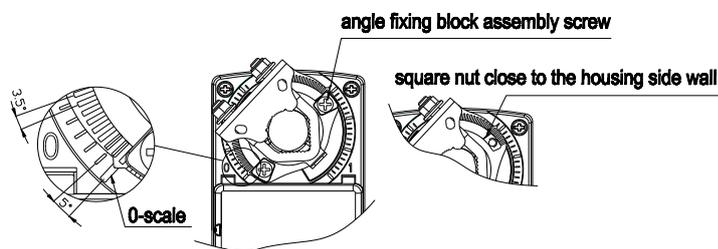

Fig.5
5. Mechanical limit setting (choose whether to use it according to actual needs): The following is the method of adjusting the left (0-scale) limit angle. The right limit angle adjustment method is reversed. As shown in Fig.5, the 0-scale position of the housing scale mark is the max. angle of operation on the left side of the actuator. Manually rotate the clamping bracket, and the angle between the left edge arrow and the 0-tick mark (the single scale on the clamping bracket is 3.5°, and 5° on the housing.) is the angle at which the rotation stroke on the left side of the actuator is reduced. After determining the required control angle, loosen the screw of the fixing block assembly at the angle of the right angle of the clamping bracket, move the assembly together, and ensure that the side of the square nut below it is close to the side wall of the housing groove (if it is not tight, after locking the screw, the square nut will interfere with the housing during the operation of the actuator), and then lock the component screw with a force of no less than 5Nm.